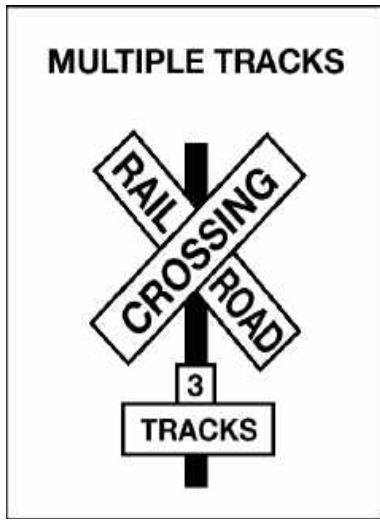

Figure 10.7
**Cross-buck Signs.** This sign marks the crossing. It requires you to yield the right-of-way to the train or other on-track equipment. If there is no white line painted on the pavement, you must stop the bus before the cross-buck sign. When the road crosses over more than one set of tracks, a sign below the cross-buck indicates the number of tracks. See Figure 10.7.